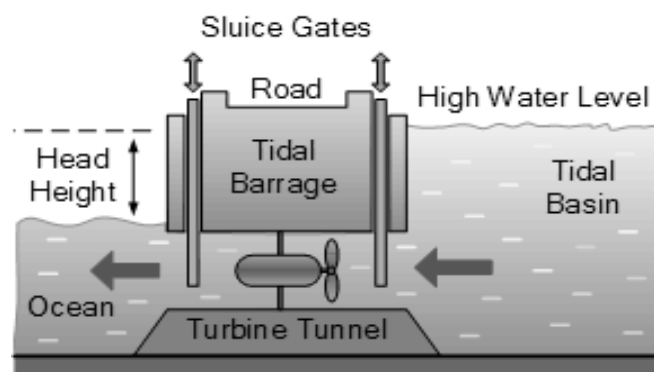

Fig 7 Typical tidal power system (image courtesy: alternative energy tutorials)
**Tidal Energy:** Tides are created due to the gravitation effects of the moon. Sufficient head of water can be captured by constructing barrages along the sea shore. A tidal wave of at least 7m is required for economical generation of electricity using water turbines. Fig. 7 shows a typical tidal power setup.